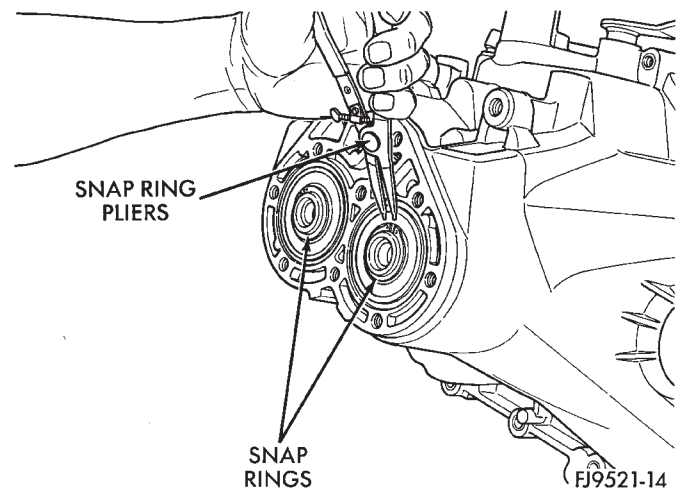

Fig. 52 Snap Rings Retaining Bearings
(12) Remove two snap rings retaining the output shaft and the input shaft to the bearings (Fig. 52).